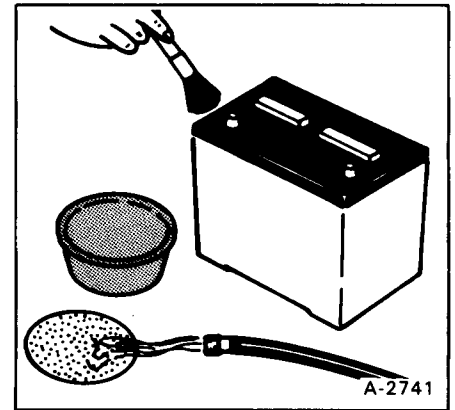

Fig. 58 Cleaning Battery
1. Check to see that the battery cables are clean and tight. Remove any acid of corrosion from the battery and cables with a baking soda and water solution (Fig. 58). Cover the terminals with Clark Battery Saver to prevent corrosion. Install the covers on the terminals.